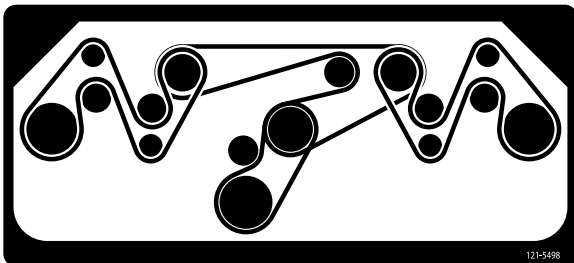

Figure 24
4. Route the new belt around the pulleys and idler pulley assembly as shown in Figure 24.